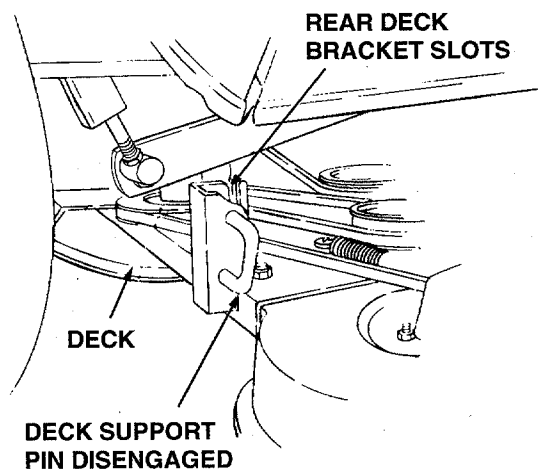

Figure 51
6. If not already done, pull the deck support pins outward, turn downward and release so both spring-loaded pins are held in the disengaged position against the outer surface of the deck brackets (Refer to Figure 51).